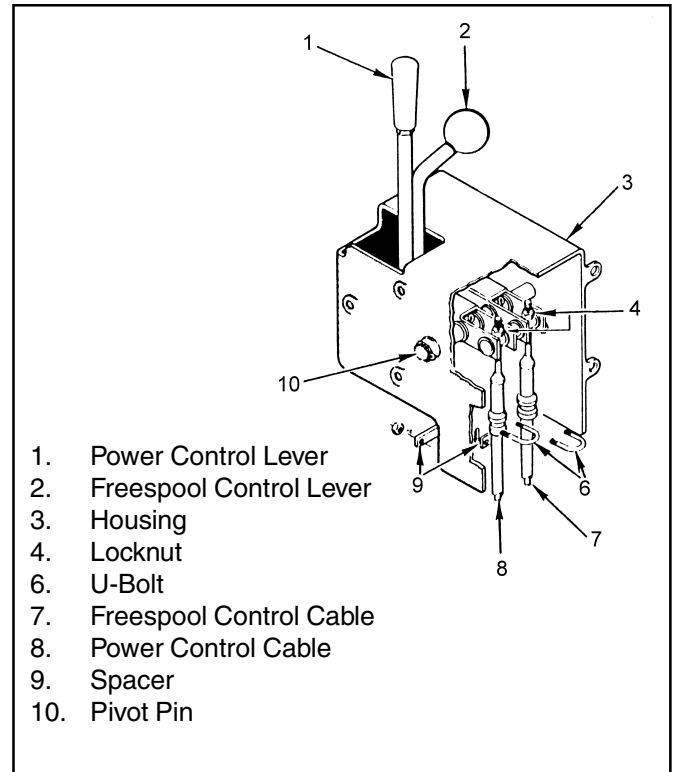

Figure 10 - Control Cable Adjustments
C. See Figure 10. This configuration was last used during 1993.